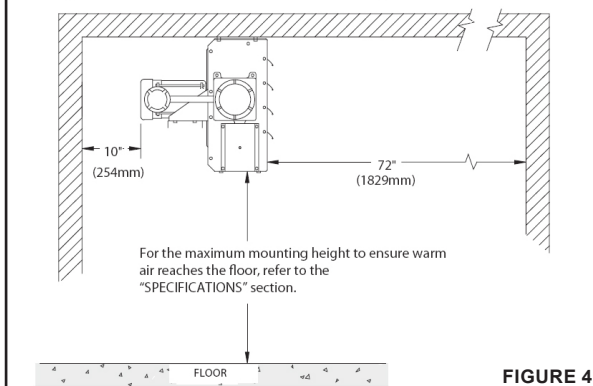
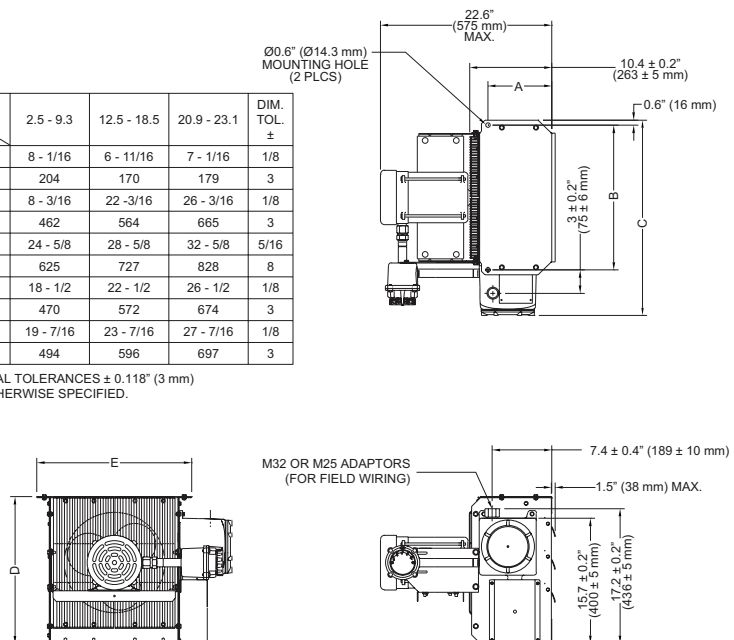

FIGURE 4
FIGURE 5
1. All models 10kW and less with an Integral Disconnect switch require 1" (25mm) mounting clearance above the heater (see Dimension "F" in Figure 5)
- e. Ensure that the fan rotates freely. See Figure 5 for proper direction of fan rotation.
1. The supply conductors, ground conductor, and room thermostat conductors (see point 2, page 4) all pass through the 1" NPT opening (see Figure 4) and are to be wired into the control enclosure (see Figure 5).
Do not install conduit below heater (see Figure 5).